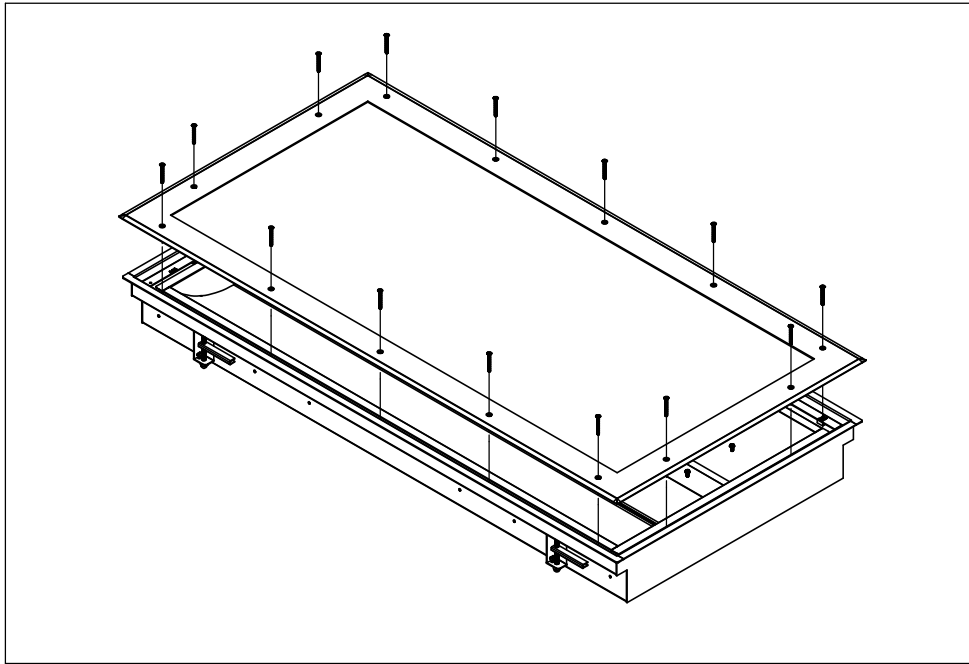

Figure 1
1. Remove fasteners and Frame (Fig. 1)